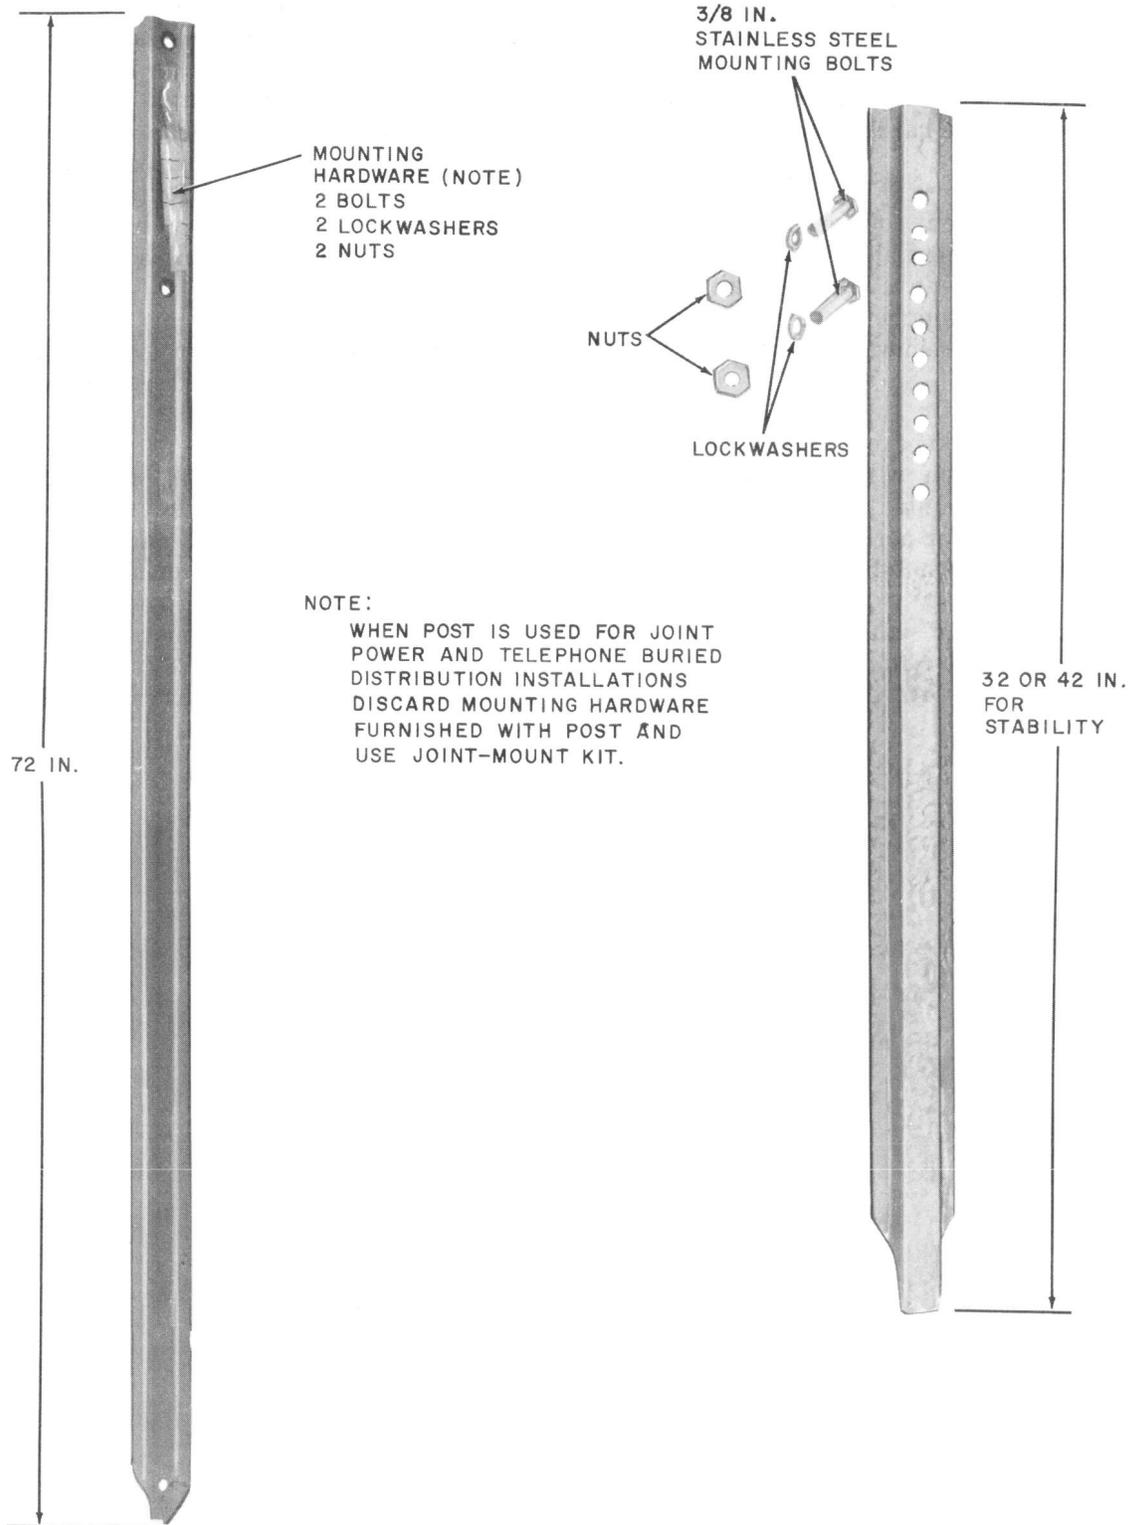

Fig. 3—Anchor Post
- (a) ***Anchor posts*** 32, 42, or 72 inches (Fig. 3):